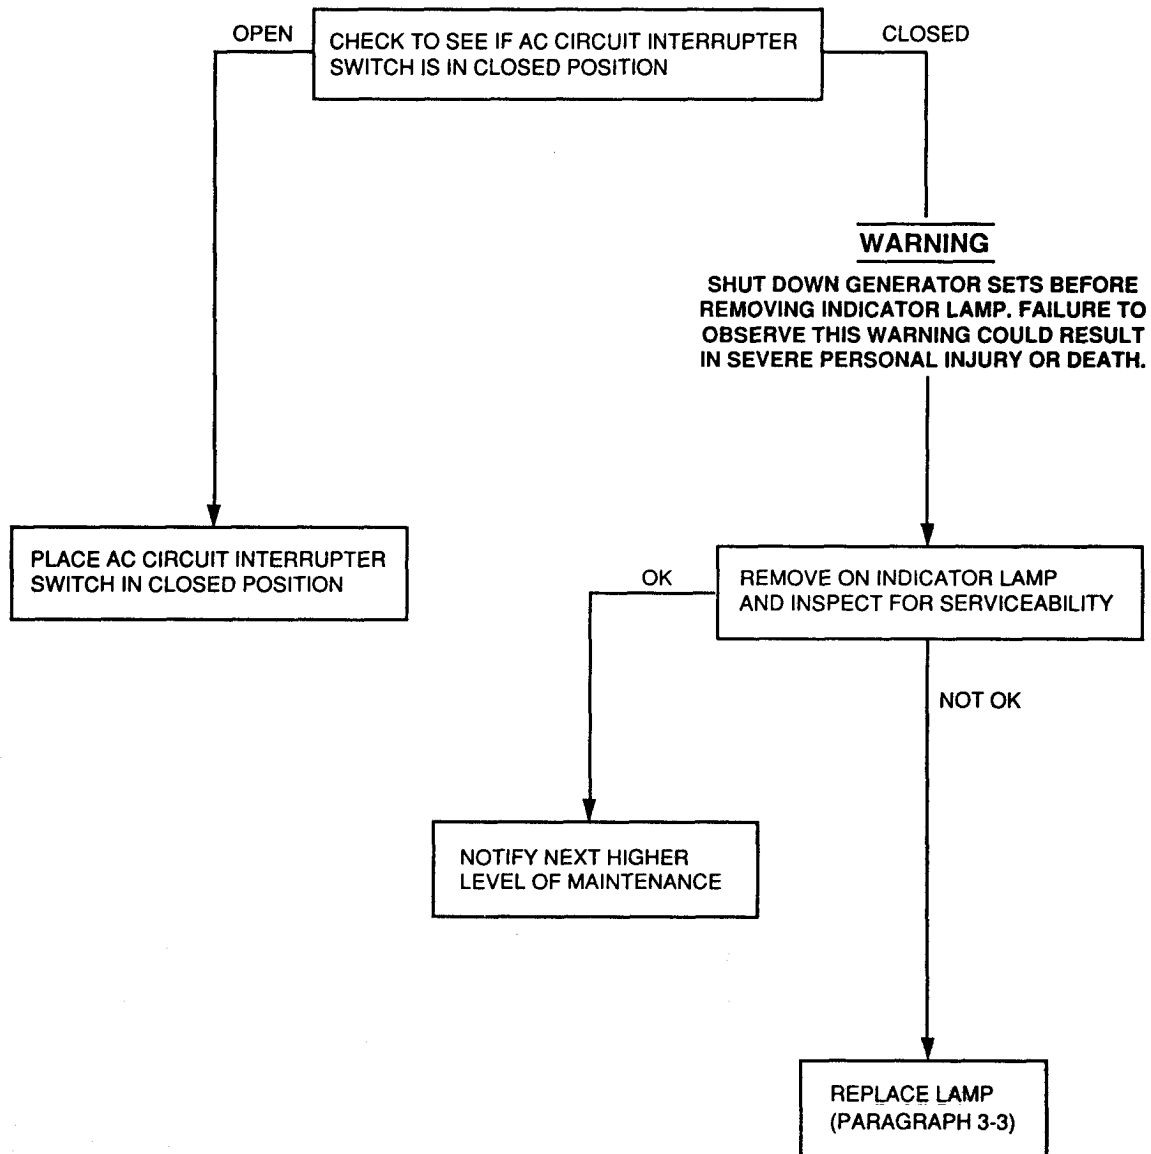

Figure 3-1. ON Indicator Lamp Fails To Light With Generator Set Running.
**3-2.3 Power Plant.** The following symptom index lists faults associated with switch box operation. Figures 3-1, 3-2, and 3-3 provide a go/no-go flowchart of each malfunction. Each malfunction listed includes a reference to the applicable figure that contains a chart that will help you determine probable causes and corrective actions to take. The symptom index cannot list all faults that may occur, nor all tests or inspections and corrective actions. If a malfunction is not listed or cannot be corrected by listed corrective actions, notify next higher level of maintenance.